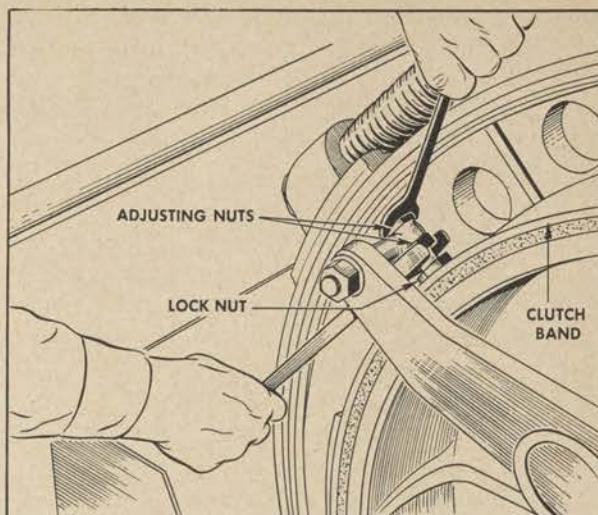

Figure 248. Centering friction clutch band on twin drums.
(4) *Centering friction clutch band (twin drum).* Loosen upper and lower lock nuts on clutch band centering bolt, turn adjusting nut to adjust position, or centering, of clutch friction band; tighten upper and lower lock nuts to hold adjusting nut in position. Hold adjusting nut firmly in position while tightening lock nuts. (See fig. 248.) Then adjust the position bolts on the clutch band so that the band does not spring away from the clutch face when clutch is released, or does not drag at any point.